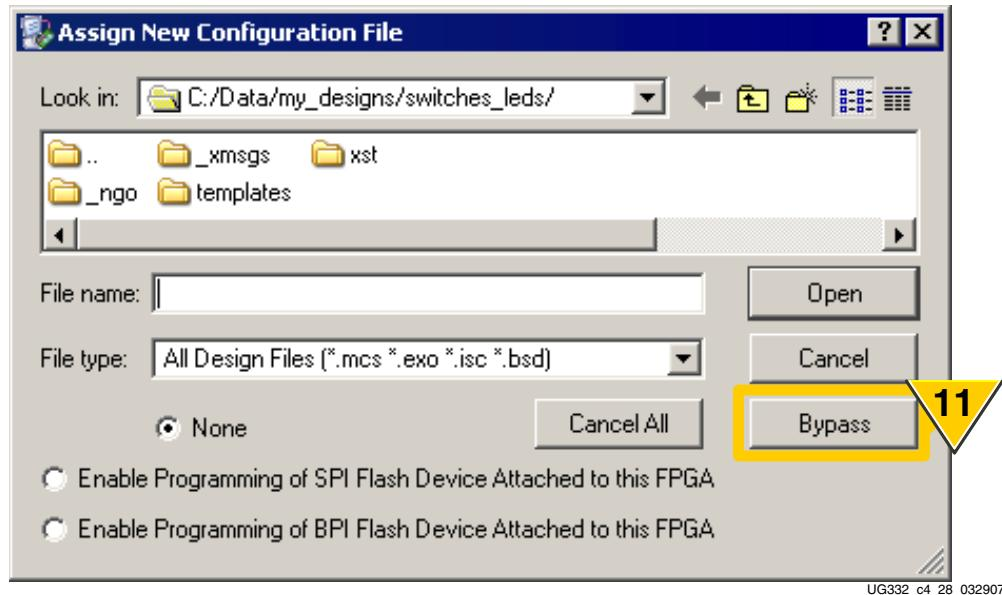

Figure 4-26: Bypass the Platform Flash PROM
11. Select Bypass when prompted for the Platform Flash PROM programming file, as shown in Figure 4-26.